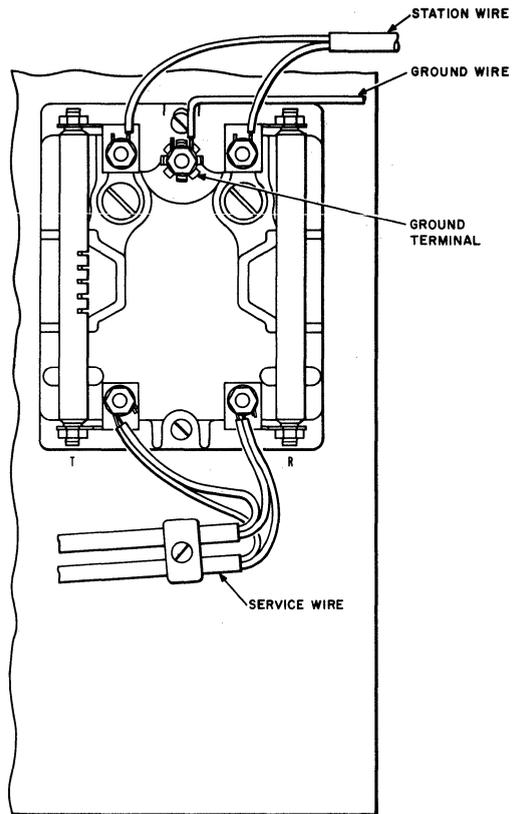

Fig. 93—Two Service Wires Bridged at Fused Protectors
11.12 A maximum of three service wires furnishing a battery for a system may be terminated on one fused protector and must be bridged on the line side of the protector (Fig. 93). In the event more than three service wires are required to extend a battery feed circuit, additional protectors must be installed (Fig. 94). Use two 11C fuses, one for the tip conductors and one for the ring conductors. If it is necessary to strap the conductors at the binding posts, remove the 2A1A protector units and substitute 2A1D (dummy) protector units where fuses have been removed as shown in Fig. 94. On disconnects, replace the 2A1D protector units with 2A1A protector units and replace fuses.